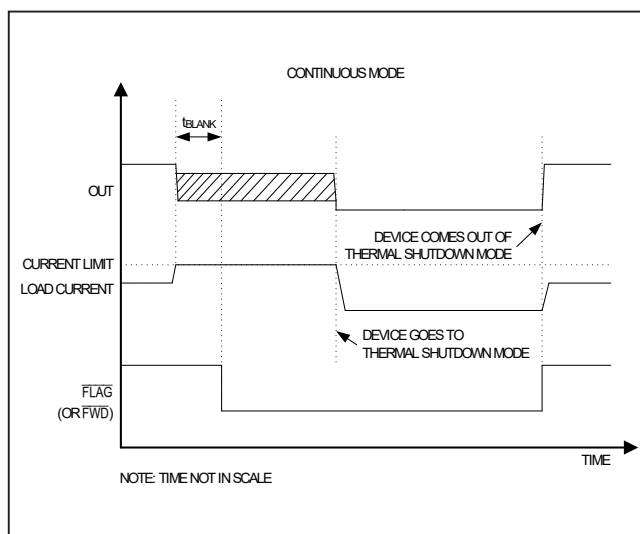
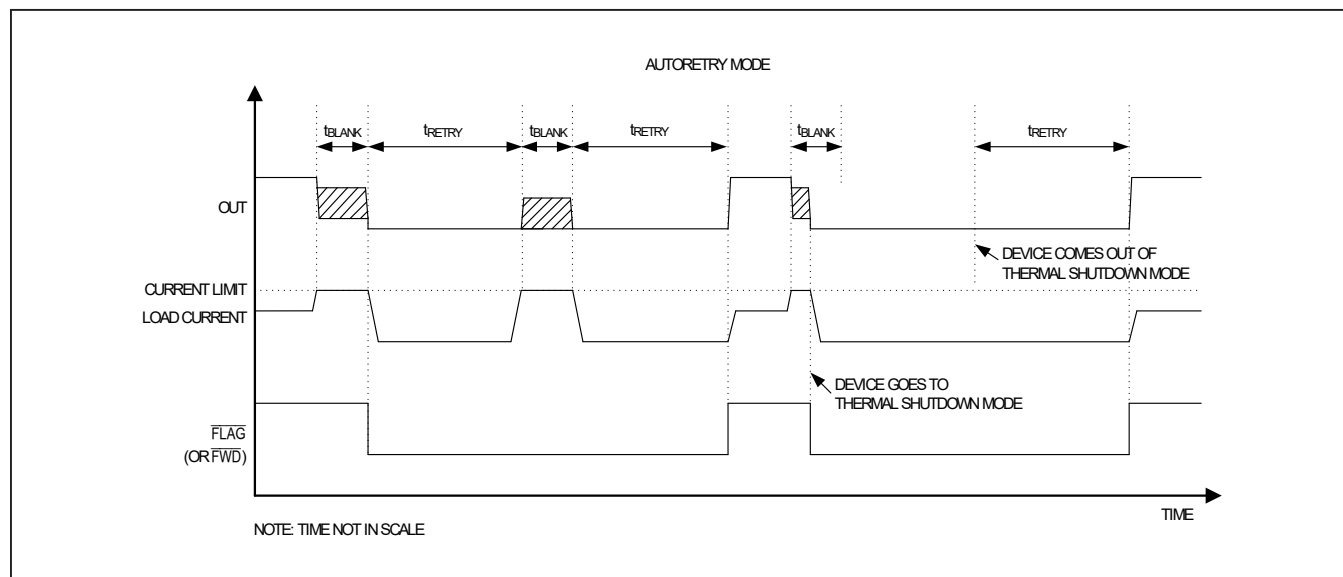
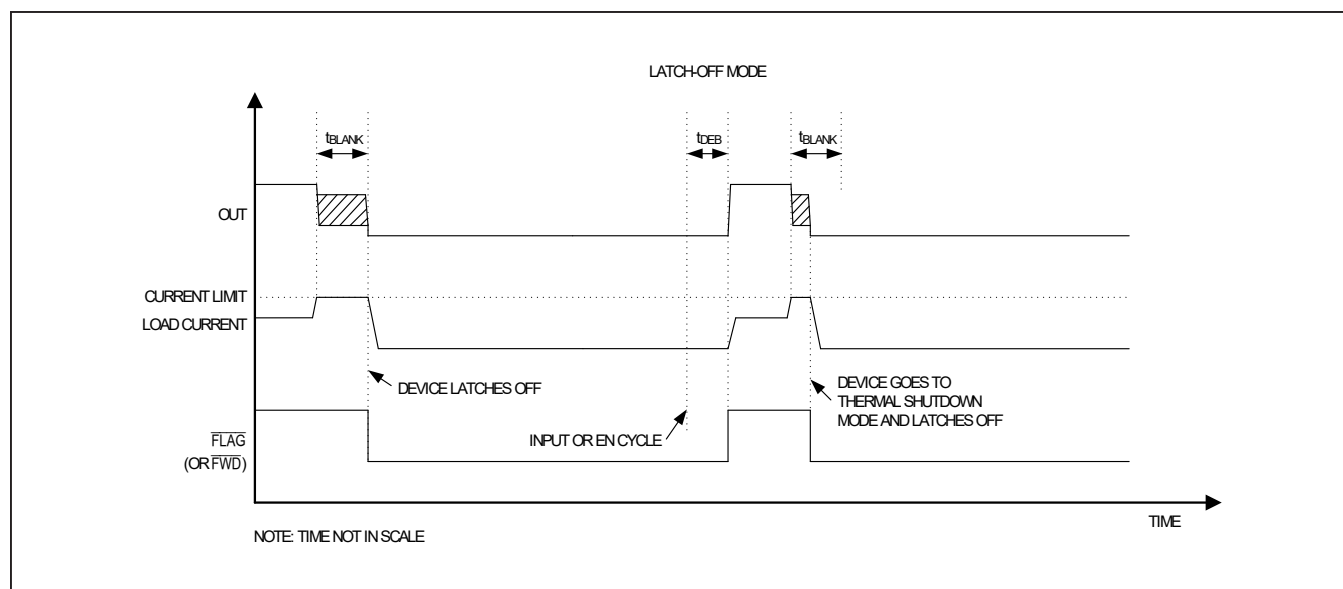

Figure 4. Continuous Fault-Timing Diagram
Figure 3. Autoretry Fault-Timing Diagram
Figure 5. Latch-Off Fault-Timing Diagram
With a 40ms (typ) t_{BLANK} and 600ms (typ) t_{RETRY} , the duty cycle is 6.25%, resulting in a 93.75% power reduction when compared to the switch being on the entire time. Figure 3 depicts typical behavior in the autoretry current-limit mode.
In continuous current-limit mode, when current through the device reaches the current limit threshold, the device limits output current to the programmed current limit. The $\overline{\text{FLAG}}$ (or $\overline{\text{FWD}}$) pin asserts if overcurrent condition is present for t_{BLANK} and deasserts when the overload condition is removed. Figure 4 depicts typical behavior in the continuous current-limit mode.
In latch-off current-limit mode, when current through the device reaches the current-limit threshold, the t_{BLANK} timer begins counting. The $\overline{\text{FLAG}}$ (or $\overline{\text{FWD}}$) pin asserts if an overcurrent condition is present for t_{BLANK} . The timer resets when the overcurrent condition disappears before t_{BLANK} has elapsed. The switch turns off and stays off if the overcurrent condition continues beyond t_{BLANK} . To reset the switch, either toggle the control logic (EN) or cycle the input voltage. Figure 5 depicts typical behavior in latch-off current-limit mode.
The thermal limit behaves similarly to the current limit. In autoretry mode, the thermal limit works with the autoretry timer. When the junction temperature falls below the falling thermal-shutdown threshold, devices turn on after the retry time. In latch-off mode, the devices latch off until power or EN is cycled. In continuous mode, the devices only disable while the temperature is over the limit. There is no blanking time for thermal protection. Figure 3, Figure 4, and Figure 5 depict typical behavior under different current limit modes.